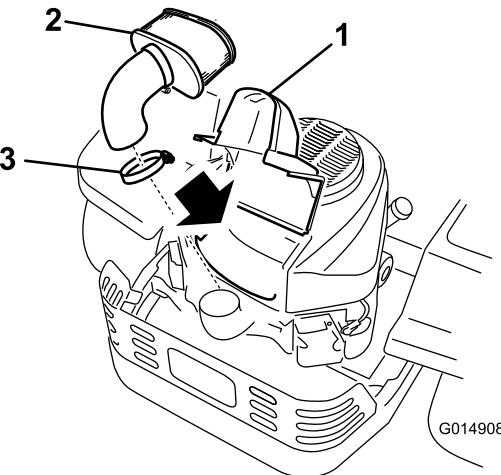

Figure 31
4. Lift the cover and remove the hose clamp securing the air-cleaner assembly to the engine (Figure 31).
5. Loosen the hose clamp and remove the paper element (Figure 31).